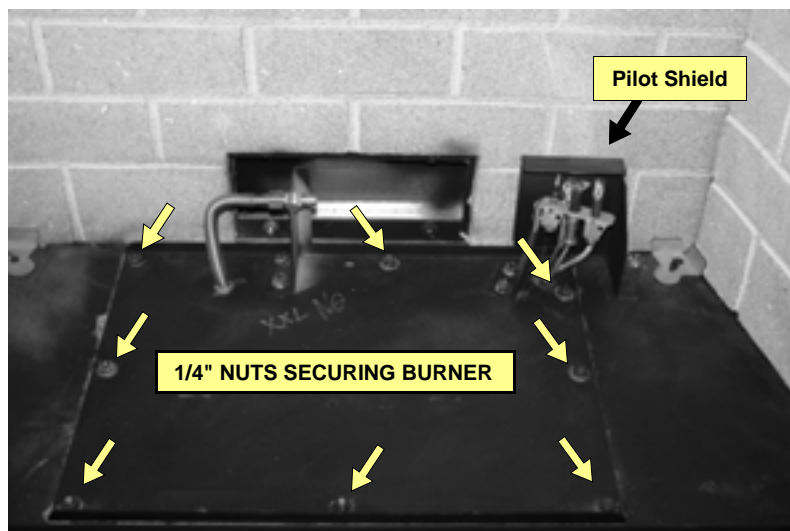

Figure C-3
- B) Remove the pilot shield. Figure C-3.
- C) Loosen and remove the (2) 1/4" nuts securing the millivolt board to the firebox bottom. Lift the board off the studs and remove from the firebox. Figure C-3.